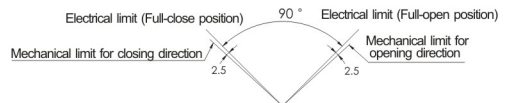

Fig. 7
- 5) After the adjustment, the effective stroke of electric actuator, electric limit and mechanical limit shall meet the requirements of Fig. 7, which means under abnormal conditions the switch for stroke shall be protected electrically. Only after the stroke switch being defected, the mechanical switches shall be initiated. During operation, if mechanical switch is advance or coincidence with the electrical limit, the motor' s turning will be blocked at full-open or full-close position, the motor will be overheated or burn out if not handle it in time.